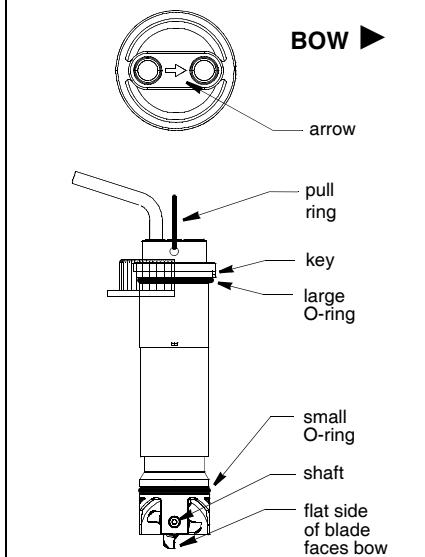

Figure 10. DST800L insert
1. To remove the old paddlewheel shaft, grasp the end with small diagonal wire cutters and pull (see Figure 10 or 11).